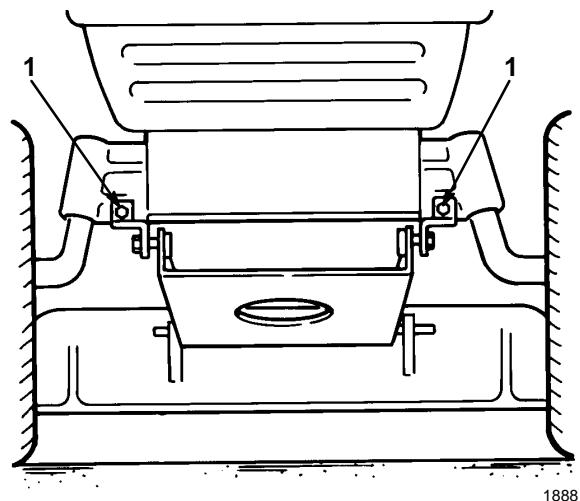

Figure 34
7. Remove the bolts and lock nuts and pull the two mower pivot mount brackets down from the front axle (Fig. 34).